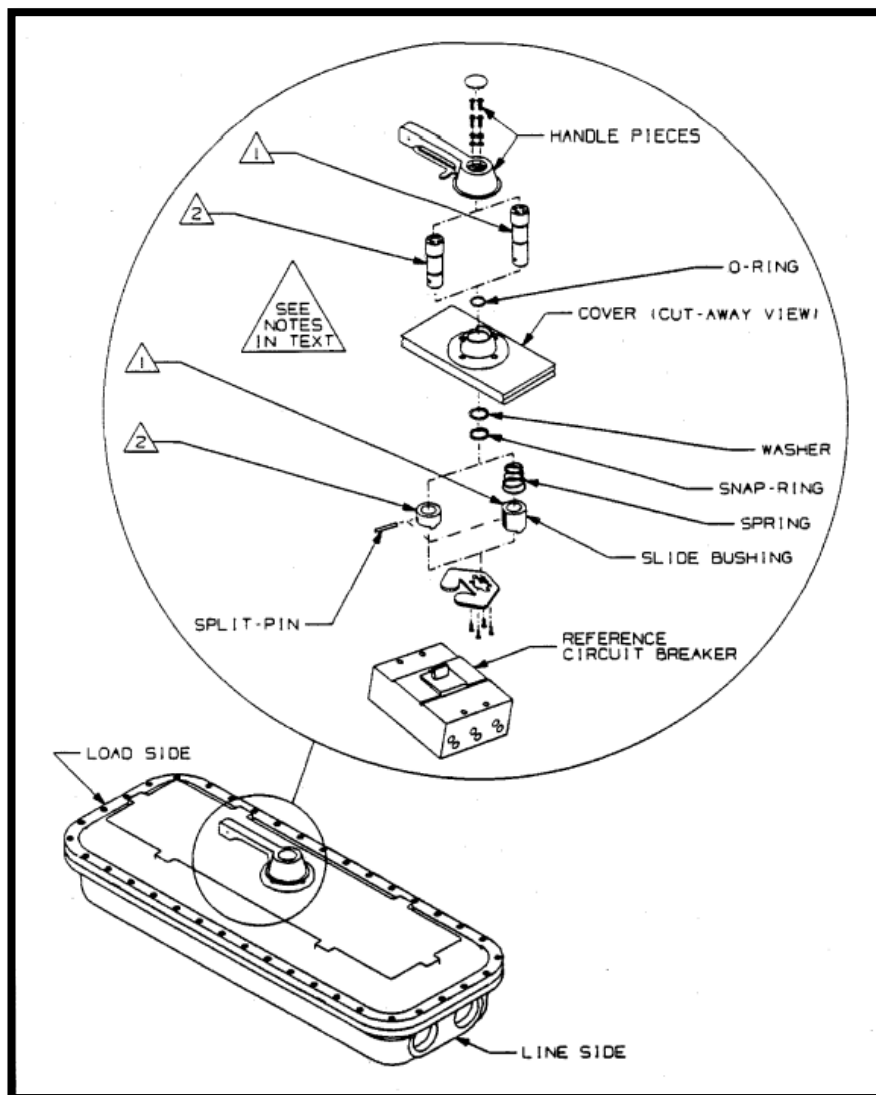

FIGURE 3
Refer to FIGURE 3. Install items that are identified with a number 1 in the above shown sequence.
- Install spring & slide bushing as shown in Figure 3
Refer to FIGURE 3. Install items that are identified with a number 2 in the above shown sequence.
- Install the bushing as shown in Figure 3.